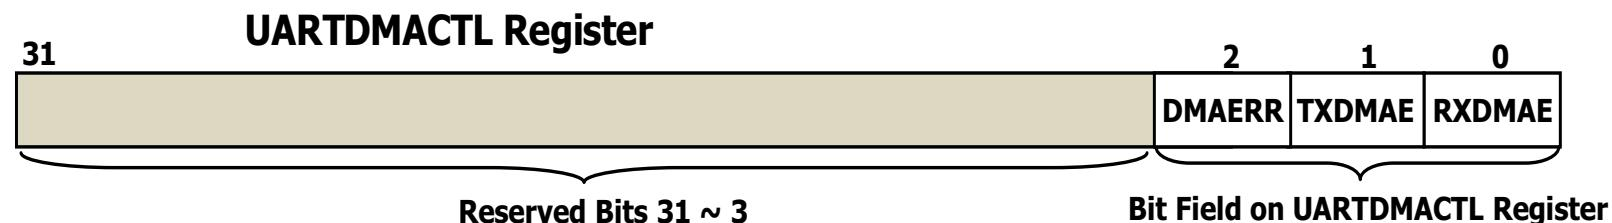

Figure 8.72 Bit configuration on UARTDAMCTL register.
- This is a 32-bit register but only the **lowest 3 bits** are used to control the DMA operations on the UART. The bit configurations of this register are shown in Figure 8.72. The bit field and function are shown in Table 8.35.